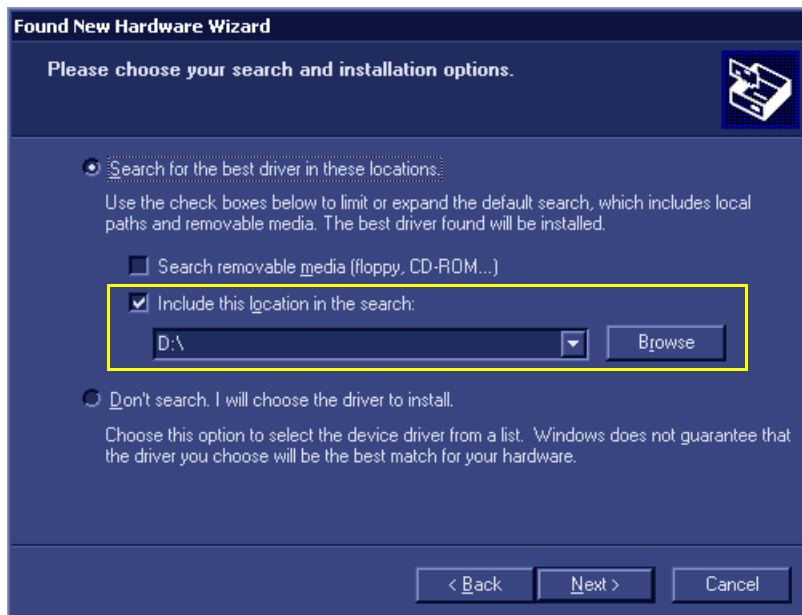
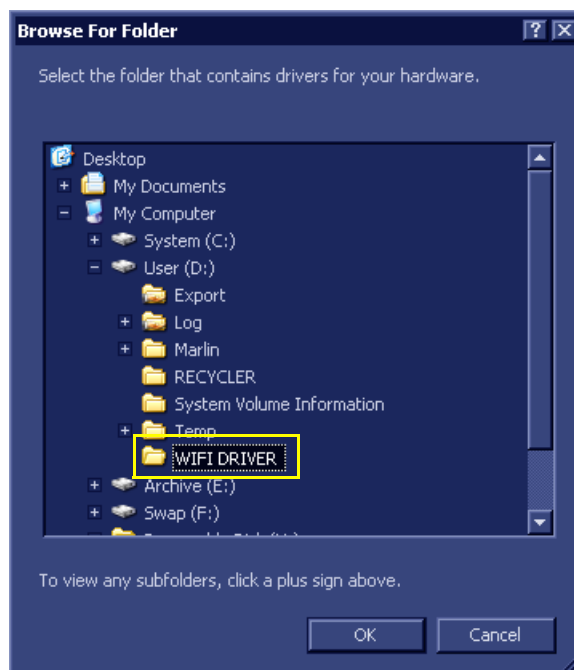

Figure 3-98 Include this Location in Search
Figure 3-99 WIFI DRIVER Folder
- 10.) Select **Include this location in search** (Figure 3-98) and browse to "D:\WIFI DRIVER\" (Figure 3-99).
The following screen opens (Figure 3-99).